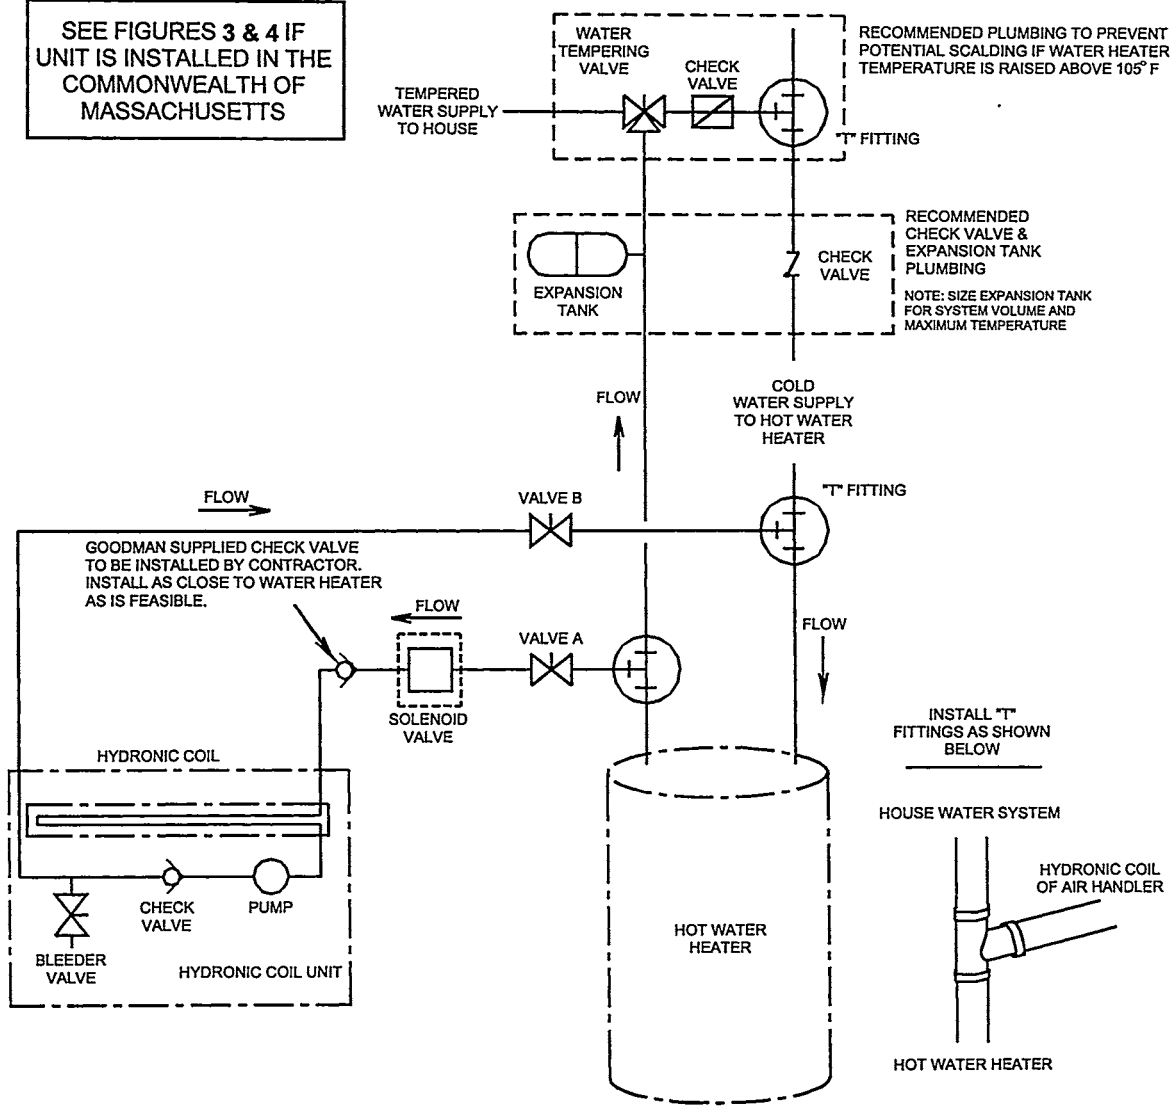

FIGURE 2
The connections to the hot water coil are 3/4" (7/8" O.D.) copper tubing. The hot water inlet is located on the top right of the unit (a label on the unit clearly identifies the correct connection). All piping connecting the fan coil to the house water system should be 3/4" (7/8" O.D.) copper tubing. This size tubing will prevent loss of head pressure. The total length of piping used to connect the fan coil to the water heater should not exceed 200 feet. Use "T" fittings at the water heater to connect into the house water system. These "T" fittings must be installed on the vertical hot and cold supply lines of the water heater as shown in Figure 2. The connections from the fan coil unit are made to the horizontal connection of the T" fittings. This will allow air to be purged from the system when water is used in the home. Between the fan coil and water heater connections, two valves (provided by the installer) must be installed to permit the purging of air in the system and also to allow the hot water coil in the unit to be separated from the house water system during servicing.
3. As shown in Figure 2, close the valve on the hot water supply from the water heater ("A") and open the valve on the cold water return to the water heater ("B"). Then open the air bleed valve in the fan coil. Use bucket or hose to discard water during purging process at air bleed valve. Purge air completely from lines.
A secondary check valve is to be installed on the inlet side of the unit. (Install the check valve as close to water heater as is feasible.) A spring loaded Watts Regulator 600 series 3/4" npt check valve is supplied with your unit for this purpose and may be installed in a vertical or horizontal position. Install the check valve as close to the water heater as is feasible. On AH units, the check valve is located behind the front panel and is secured to the hydronic tubing manifold with 2 wire ties. See Figure 2 for schematic diagram of secondary check valve.
NOTE: In the rare case that thermal siphoning occurs with secondary check valve installation, it is recommended that a solenoid operated valve be installed. See Figure 2 for schematic diagram of solenoid valve.